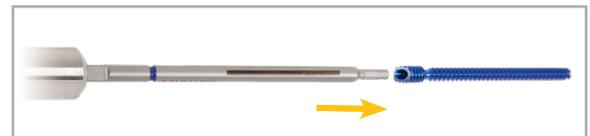

Figure 17
**It is important to remember to align the line on the hex driver with the beveled head of the PROstep MICA Screw to allow for greater control when inserting the screw. (Figure 17) This alignment allows the user to determine when the PROstep MICA Screw is seated flush. X-ray will also confirm this.**